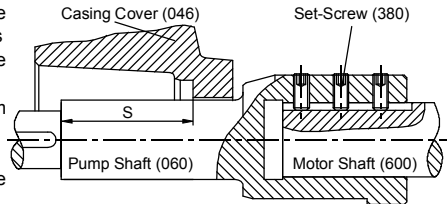

Fig. 8.
- Place the motor (600) vertical as the shaft end comes to the upper side.
- Assemble the motor pedestal (012) to the motor (600).
- Slip the pump shaft (060) onto the motor shaft.
- Place the stuffing box cover (046) onto the motor pedestal (012)
- Make the alignment of the pump shaft's location to provide the length as per the length "S" given in **section L**. ("S" is the distance between the shaft shoulder and the end of the mechanical seal chamber. **See Fig. 8** ). Tighten the set-screws (for the shaft consists of 3 set-screws starting from the one in the middle and for the shaft consists of 2 set-screws start from the one near the motor).
- Slip the rotating part of the mechanical seal onto the pump shaft (060) and place the spacer sleeve (067).
- Place the impeller key (210) into keyway, slide the impeller (050) onto the shaft (060) and screw the impeller nuts (065).
- Assemble the volute casing (001).